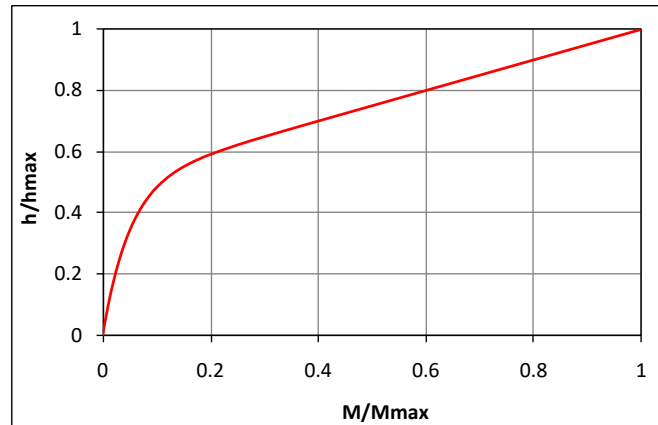

Fig. 5. Relative stub insertion depth  $h$  vs. relative load reflection coefficient magnitude  $M$ .
The curve (12) is presented in Fig. 5. As evident, it is very steep close to the origin: matching of even small reflections requires substantial stub insertions, and hence comparatively high tuning times. For higher  $M$ , the curve becomes less steep.